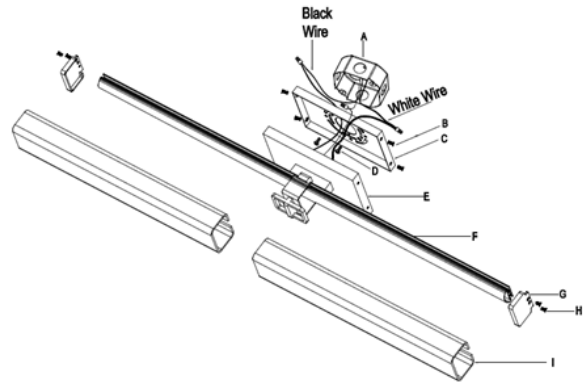

Fig.2
CONNECTING THE WIRES (FIG. 2)
3. At this point, connect the electrical wires as shown in Fig. 2, making sure that all wire connectors(B) are secured. If your outlet has a ground wire (green or bare copper), connect the fixtures ground wire to it. Otherwise, connect the fixture ground wire directly to the mounting plate (C) using the green screw provided. After wires are connected, tuck them carefully inside the junction box.
4. Align the fixture's back plate (E) over the mounting back plate (C) and secure with screws (B).